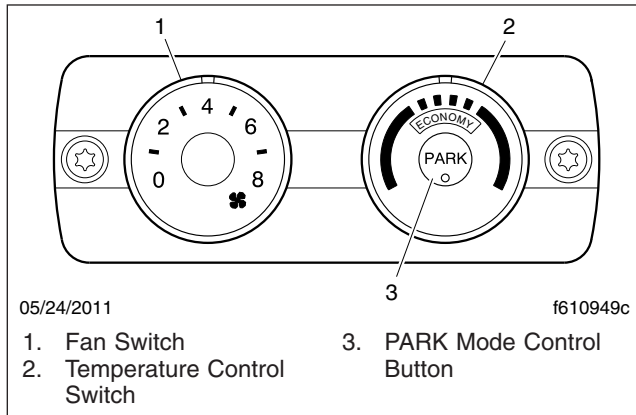

Fig. 8.6, ParkSmart Climate Control Panel
fan speeds. Zero (0) is the OFF position. See **Fig. 8.6**. To operate the fan switch, turn the switch clockwise to increase airflow; turn the fan switch counterclockwise to decrease airflow.
- The ParkSmart runs unless the ParkSmart fan speed control knob is turned to the "OFF" position. See Fig. 8.6. The fan speed control knob must be set at "1" or higher.